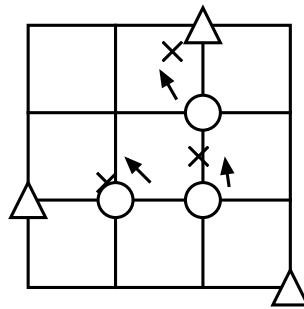

Figure 1: Indirect simultaneous positioning in 2D space
2. Simulate an indirect simultaneous positioning of an elastic 2D object illustrated in Figure 1. Three points marked as circles on the object must be guided to their desired location marked as crosses by controlling the position of three manipulated points marked as triangles, as shown in the figure. You may assume that the control process is static. Introduce the discrepancy between physical parameters in control law and actual ones to discuss the robustness of the control law.